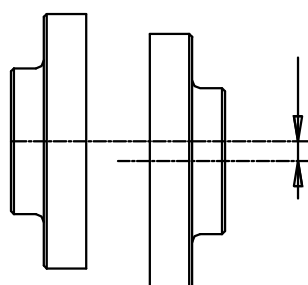

Fig 3b
- not radially offset from each other (voir fig.3B § 7 - Coupling Disassembly page 4).